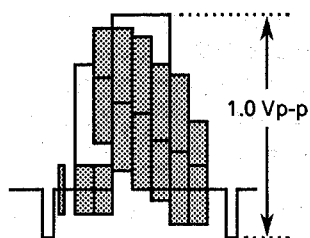

Figure 5-7.
5. Make sure that the output signal amplitude is 1.0Vp-p as shown in Figure 5-7.